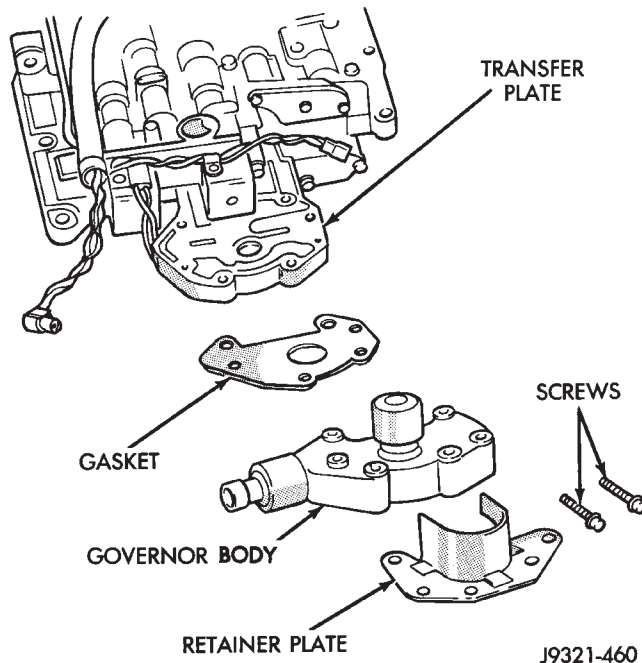

Fig. 92 Governor Body, Retainer Plate And Gasket Removal
- (3) Remove retainer plate, governor body and gasket from transfer plate (Fig. 92).